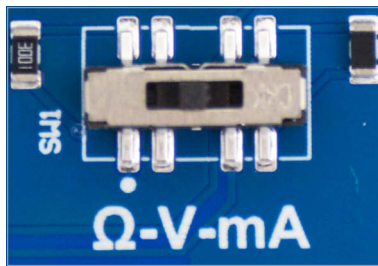

FIGURE 1: Analog Mode Selector Switch
8. **Analog Data Loggers Only:** Confirm the selector switch (located under the terminal block, see Figure 1) is set to the appropriate channel for the sensor being read. See the Model 8921 Instruction Manual for examples on wiring and selector switch configuration.